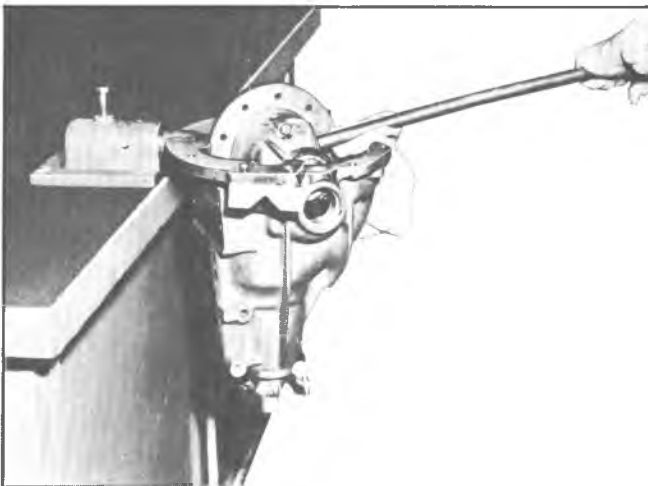

Fig. 2C—Removing Differential Case
4. Pull differential assembly out of carrier, taking care not to damage machined mounting surface on carrier. See Figure 2C. Remove differential bearing shims and mark for future reference.